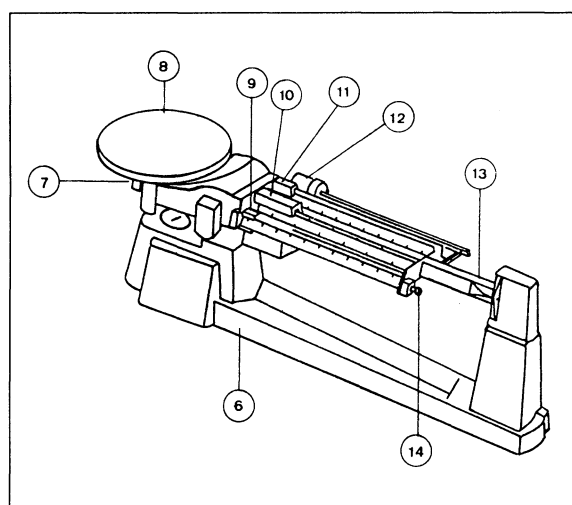

Fig. 4 ► 3.
3. Set up the laboratory balance as shown in fig. 4. The balance consists of the following parts:
- (6) baseplate
- (7) adjusting screw for taring the balance
- (8) weighing pan
- (9) sliding weight for 0 – 10 g
- (10) jockey weight for 0 – 500 g
- (11) jockey weight for 0 – 100 g
- (12) tare compensator
- (13) indicator showing the point of equilibrium
- (14) hook for adding extra weight.